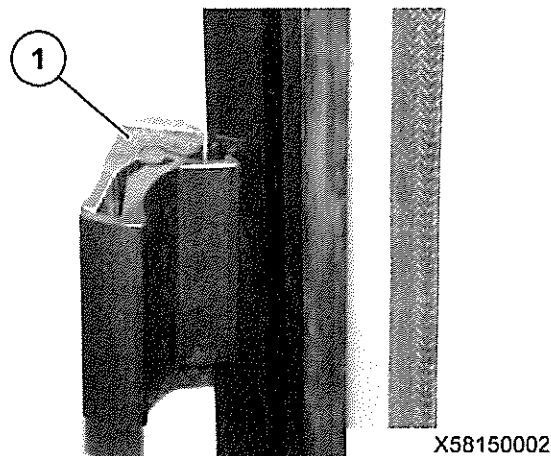

Fig 7 Operating the windows
- 17 Refer to Fig 7. To open the sliding window, proceed as follows:
- 17.1 Press the button on the lock (1).